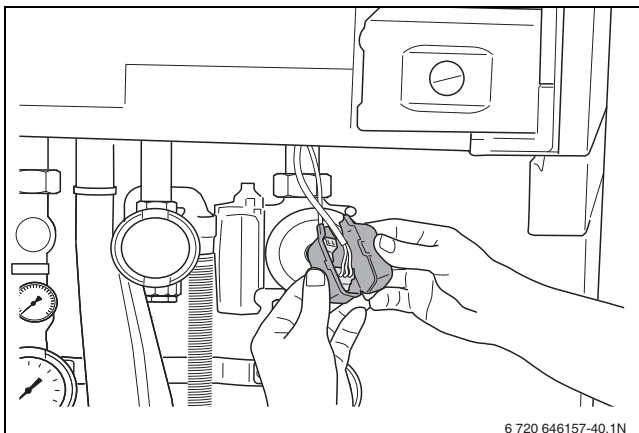

Fig. 43 Removing the covers
- Remove the covers of both free connectors on the function module connection cables (→ fig. 43).
- Connect the free 120 VAC mains cable (→ fig. 43) to the module [1]. If more modules are used, the 120 VAC supply for the second module can be taken from the first module using the cable enclosed with the module.